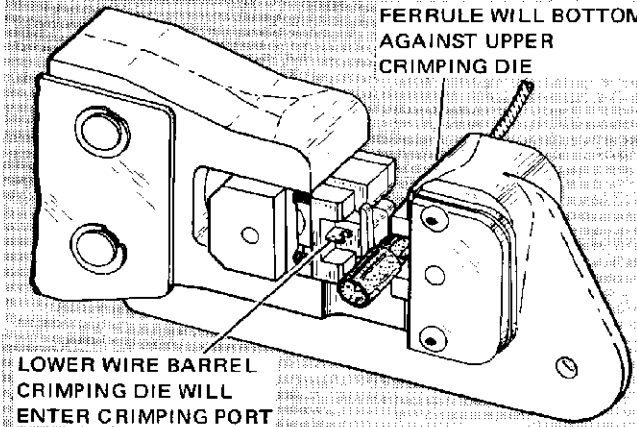

Figure 3
- (c) Place Contact in Upper Crimping Die as shown in Figure 3.
- (e) Push Contact "up" so that Upper Barrel Crimping Die enters Crimping Port and Ferrule bottoms against Braid-Ferrule Crimping Die. See Figure 3.
1. Place Contact on Stationary Die as previously described. See Figures 3 and 4.